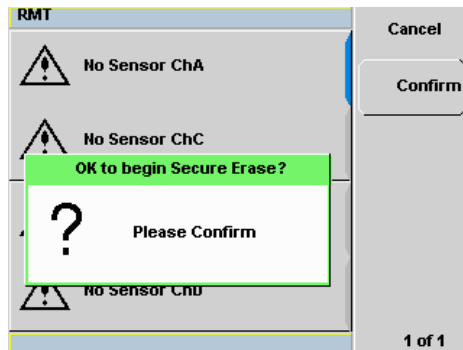

Figure 3-58 Confirmation to begin secure erase
- 2 A confirmation pop-up will be displayed, press **Confirm** to begin secure erase (see Figure 3-58).